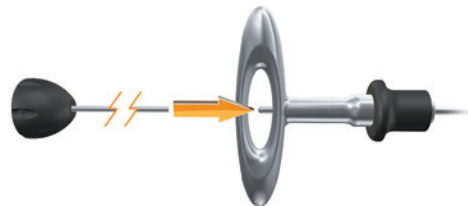

Figure 14
9. During extraction, slide the Obturator (71674078) into the T-handle in order to maintain guide rod position within the canal (Figure 14).